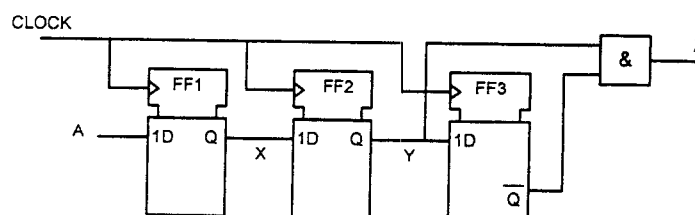

Figure 6.2
- d) Figure 6.2 shows another synchroniser circuit. Describe with the aid of a timing diagram the relationship between the asynchronous input A and the synchronised output Z.